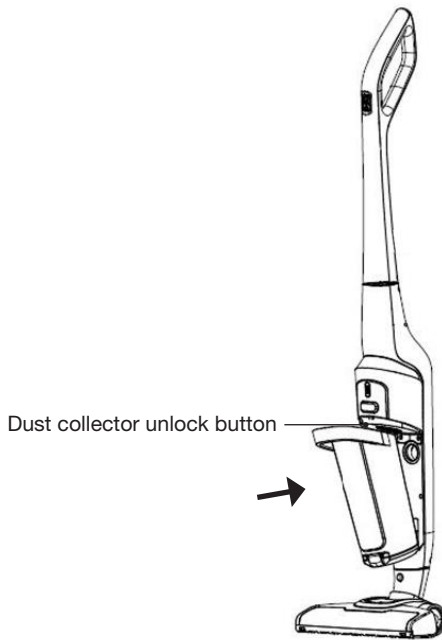

Fig. 4
5. Insert the dust collector into the body of the appliance by engaging it at the bottom, then moving the top inwards until it clicks into place (see figure 4).
To remove the dust collector from the body of the appliance, press the unlock button (see figure 4).